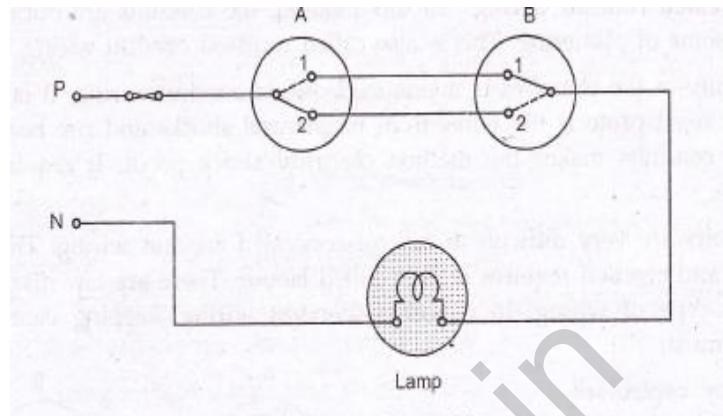

Fig. 22 OFF position of lamp
When person reaches on second floor, the lamp is required to be switched OFF. So person will change switch B from (2) to (1), due to which phase connection reaching to the lamp gets opened and lamp will switched OFF as shown in fig. 22.